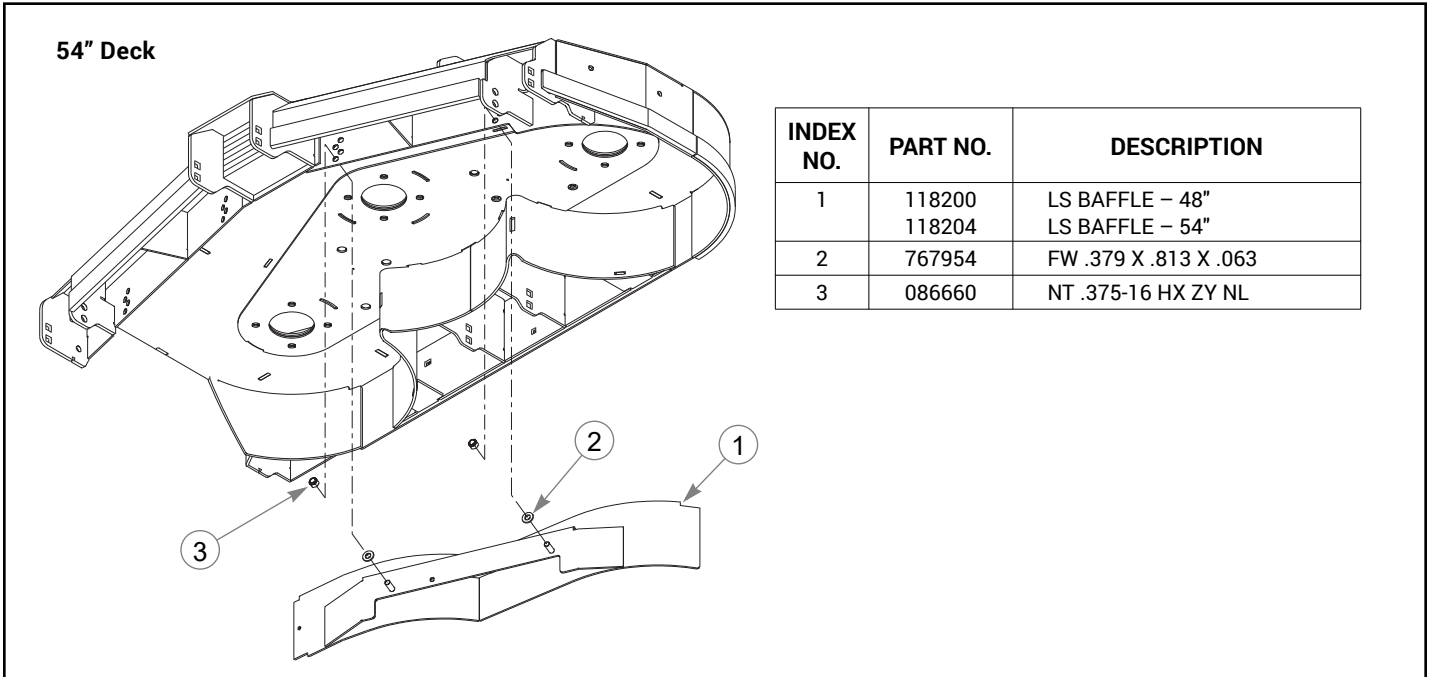
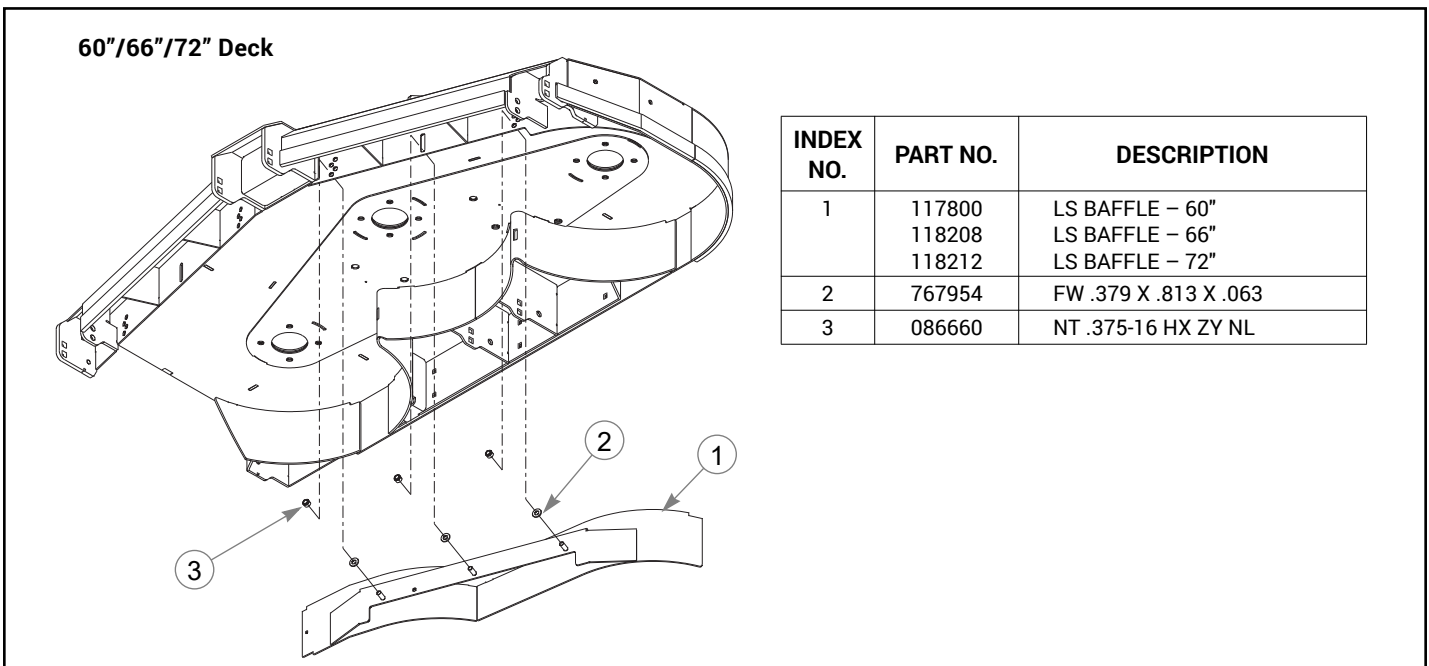

Figure 4-1
Figure 4-2
4. Attach the LS blower (leaf) baffle as shown. Figure 4-1 & Figure 4-2